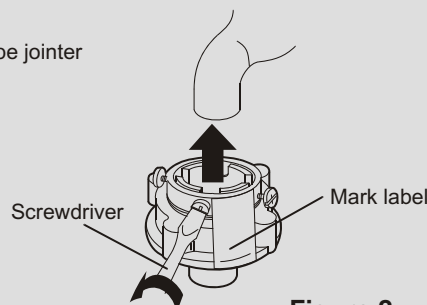
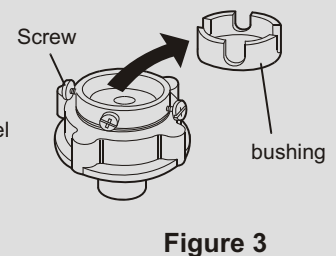

Figure 2
Figure 3
2. Loosen the screw till the water tap can be accessed. Put the jointer of the water inlet hose on the tap. See to Figure 2. (If the tap diameter is too large and the jointer can not be set on the water tap, please loosen the four screws and take out the bushing in the jointer. See to the figure3.)